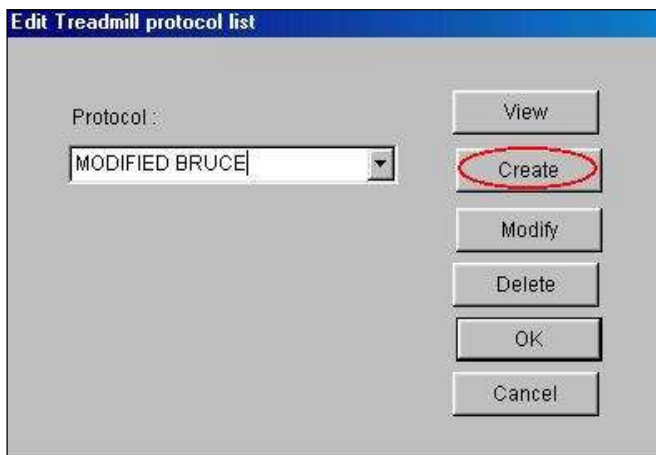

Fig.3.8: Treadmill protocol list.
Some standard protocols are pre-configured in the software. But if Doctor wants to use protocol other than the standard one, select '**Treadmill protocol**' option from '**Configure**' menu. A dialogue box as shown in fig .3.8 is displayed on the screen.
9. To modify the user defined protocol; select the protocol name from the list and click '**Modify**' button. A dialogue box shown in fig.3.8 is displayed filled with contents of existing protocol. Make the require changes and press '**Modify**' button. Press '**OK**' button after doing required modifications.